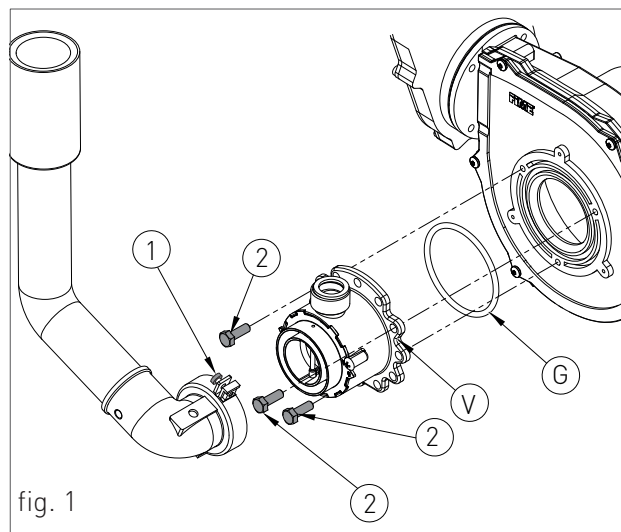
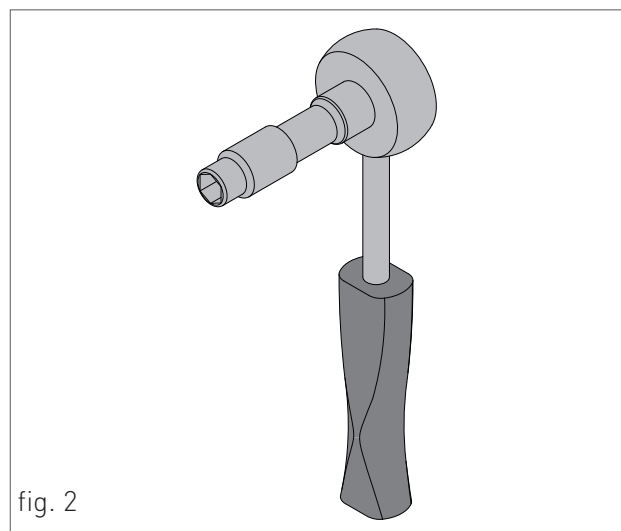

fig. 1
fig. 2
- > remove the fastening screws (2 - fig.1) placed on the front edge of the side panel;
- > grab the bottom of the panel and remove it by moving it sideways and then pulling it upwards (see fig. 1).
- > Grab at the same time the support brackets of the control panel (fig. 1) loosening them and turn the panel downwards;
- > unscrew the four fastening screws 1 - fig. 1;
- › turn the discharge tap of the system ‘RS’ (fig. 1);
- > loosen the two screws '1' (fig.1) from the fastening bush, and remove the air suction tube;
- > unscrew the three fastening screws '2' (fig.1) of the venturi 'V' (fig.1) using a 10 key, as shown in figure 2;
- > remount the components following the demounting operations in reverse making sure that gasket 'G' is re-assembled as shown in fig.1;
10. FLAME PRESENT SIGNALLING / IT ALSO INDICATES, ON 3 PERCENTAGE LEVELS, THE MODULATING POWER LEVEL OF THE BOILER (fig.2)